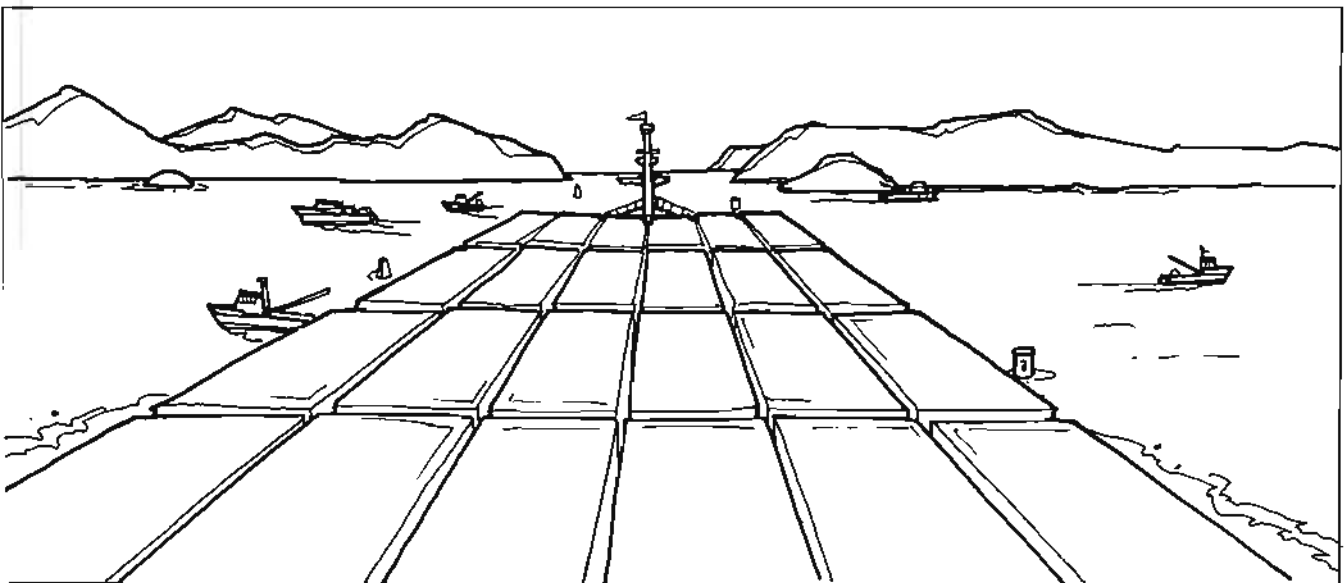

Figure 5-10. View from the bridge. When a small vessel passes in front of a big ship, the ship's pilot loses visual contact long before the point of impact.
* Visibility from many ships is poor, especially when booms and masts stick up like a forest in front of the wheelhouse windows (Figure 5-10).